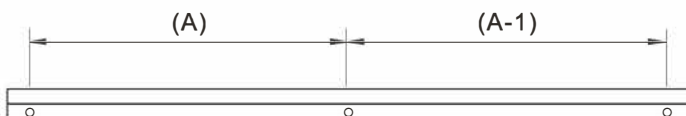

Fig. 1
1.2 Measure the distance of the holes (A, A-1, A-2) in the mounting bracket with a tape measure and mark the wall with a pencil (Fig 1) Ensure the mounting bracket is level.